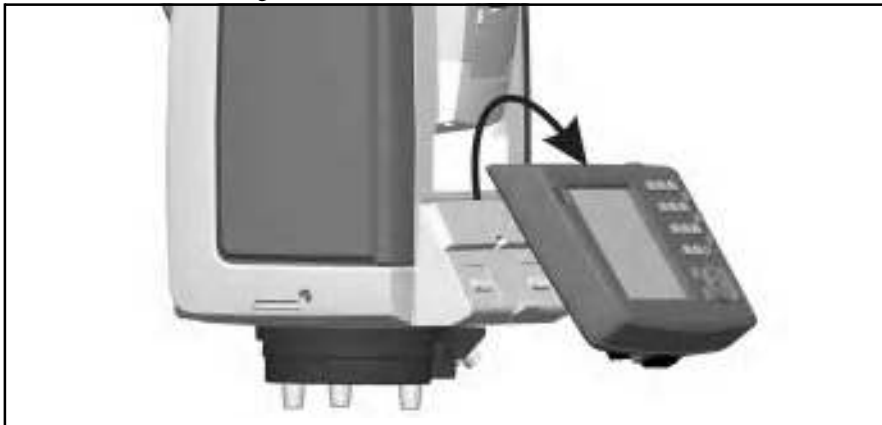

Figure 4.41 Detaching the Trimble CU
3. Unhook the top of the CU from the top edge of the panel attachment and remove the CU from the instrument. figure 4.41